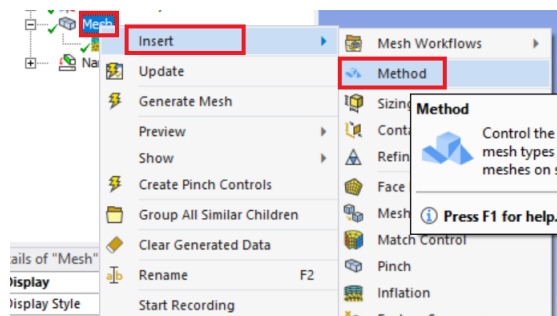

Figure 75: Inserting a mesh generation *Method* in ANSYS Mesh.
3. Insert a *Method* for generating the mesh, and setting it to *Sweep Method*, as indicated in figure 75. After this, clicking on *Sweep Method* in the outline tree in the left, will open up the *Details* window on the left, where one should make the following selections, as shown in figure 76: